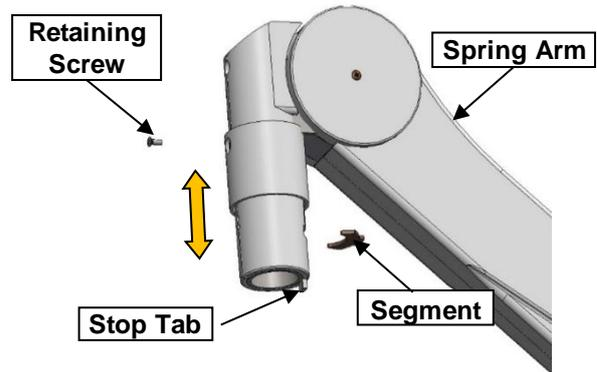

Figure 19
- Remove the retaining screw and slide the cover up, exposing the small segment, see Figure 19.